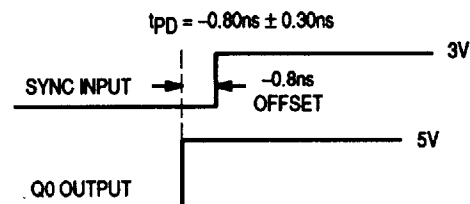

Figure 2. Depiction of the Fixed SYNC to Q0 Offset (t_{PD}) Which Is Present When a 470K Ω Resistor Is Tied to VCC or Ground
- A 470K Ω resistor tied to either Analog VCC or Analog GND, as shown in Figure 2, is required to ensure no jitter is present on the MC88916 outputs. This technique causes a phase offset between the SYNC input and the Q0 output, measured at the pins. The t_{PD} spec describes how this offset varies with process, temperature, and voltage. The specs were arrived at by measuring the phase relationship for the 14 lots described in note 1 while the part was in phase-locked operation. The actual measurements were made with a 10MHz SYNC input (1.0ns edge rate from 0.8V to 2.0V). The phase
measurements were made at 1.5V. See Figure 2 for a graphical description.